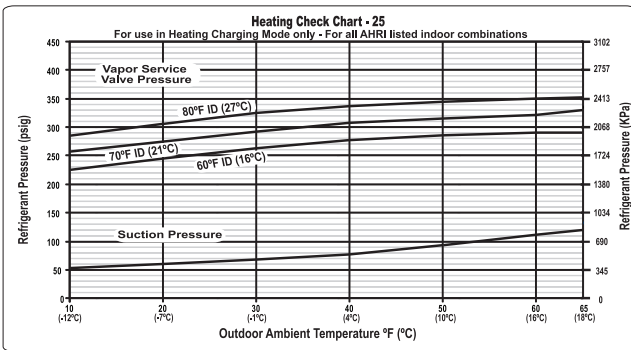

Fig. 29 - Heating Pressure Check Chart 25VNA825
Heating Check Chart Procedure (See Fig.29 - 32) (Communicating / Non-communicating Systems)
To use the Heating Check Chart, the user interface (UI) must be in Refrigerant Charging mode selected from the Installation and Service screen. The Charging Mode Selection screen will show selections for Weigh-In Charge Method or Heating Check Charge Method. Select Heating Check Charge Method. The Heating Check Charge method will only be displayed if the conditions are right for checking the charge in heating mode. When Heating Check Charge Method is selected, the system will operate by running in stage 5 with appropriate outdoor fan speed and indoor airflow. Upon completion of a countdown period for system stabilization, check refrigerant pressures for the appropriate ambient temperatures shown in Fig. 29, 30 or 32 based the OD unit size.